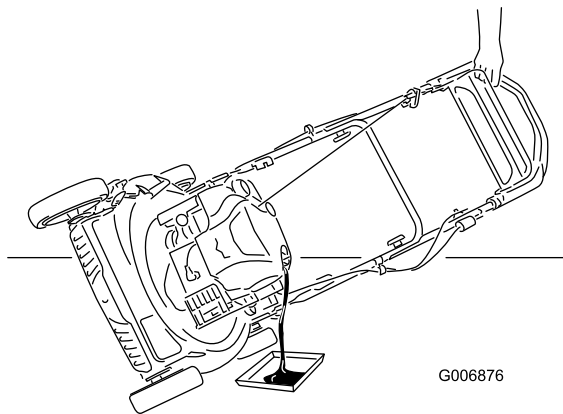

Figure 27
3. Tip the mower onto its side with the air filter up to drain the used oil out through the oil fill tube (Figure 27).